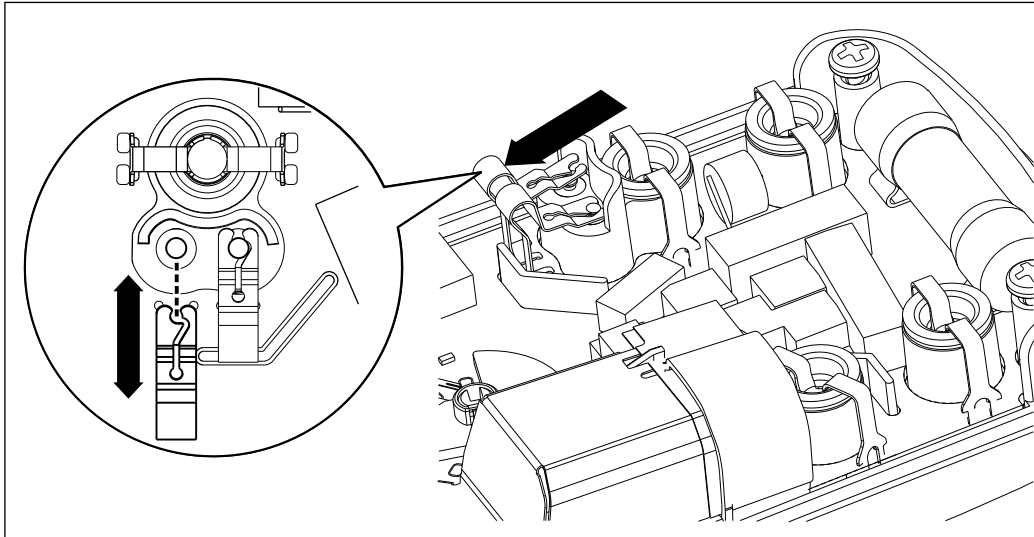

Figure 5. Insulation Terminal Clips
2. Two chrome-plated springs on the PCA form an electrical connection (clip) to the two recessed INSULATION(+) terminals on the top case. Break these connections by carefully pulling each of the springs back and away from the terminals. See Figure 5.